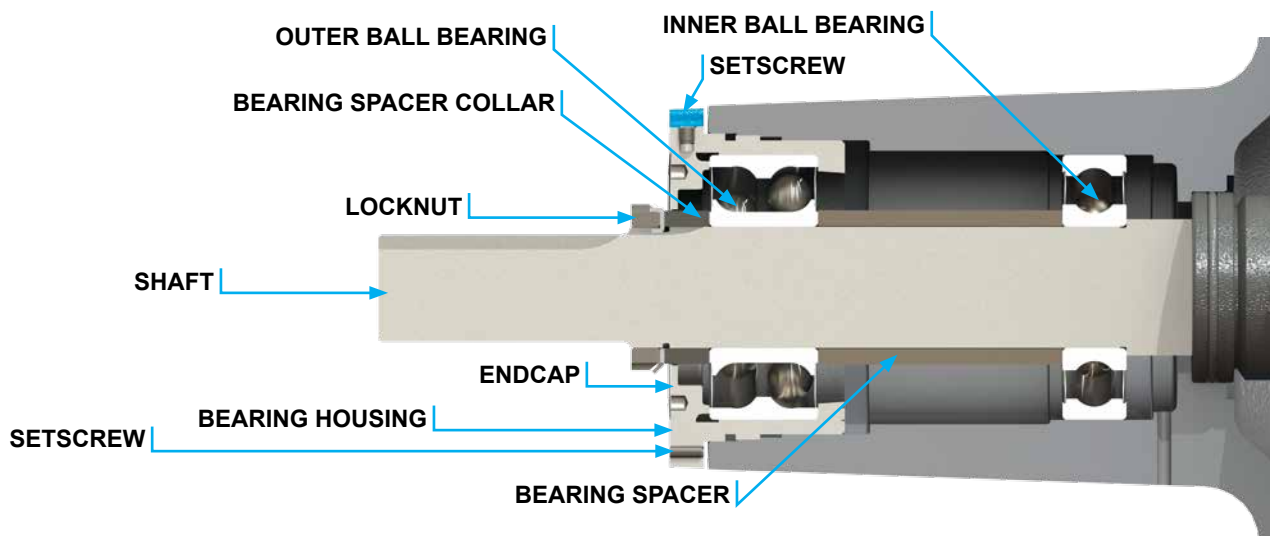

FIGURE 7 - THRUST BEARING ASSEMBLY Q AND QS SIZES
**Q, QS:** Remove the single row ball bearing from the casing. See **Figure 7**.
Loosen the two setscrews in the flange outside diameter. Rotate the end cap counterclockwise and remove. Remove the ball bearing. See **Figure 7**.
15. Install the ball bearing into the bearing housing. Install the bearing spacer collar in the end cap and turn the end cap into the bearing housing until tight against the bearing. Lock in place with two set screws in the flange of the bearing housing. See **Figure 7**.